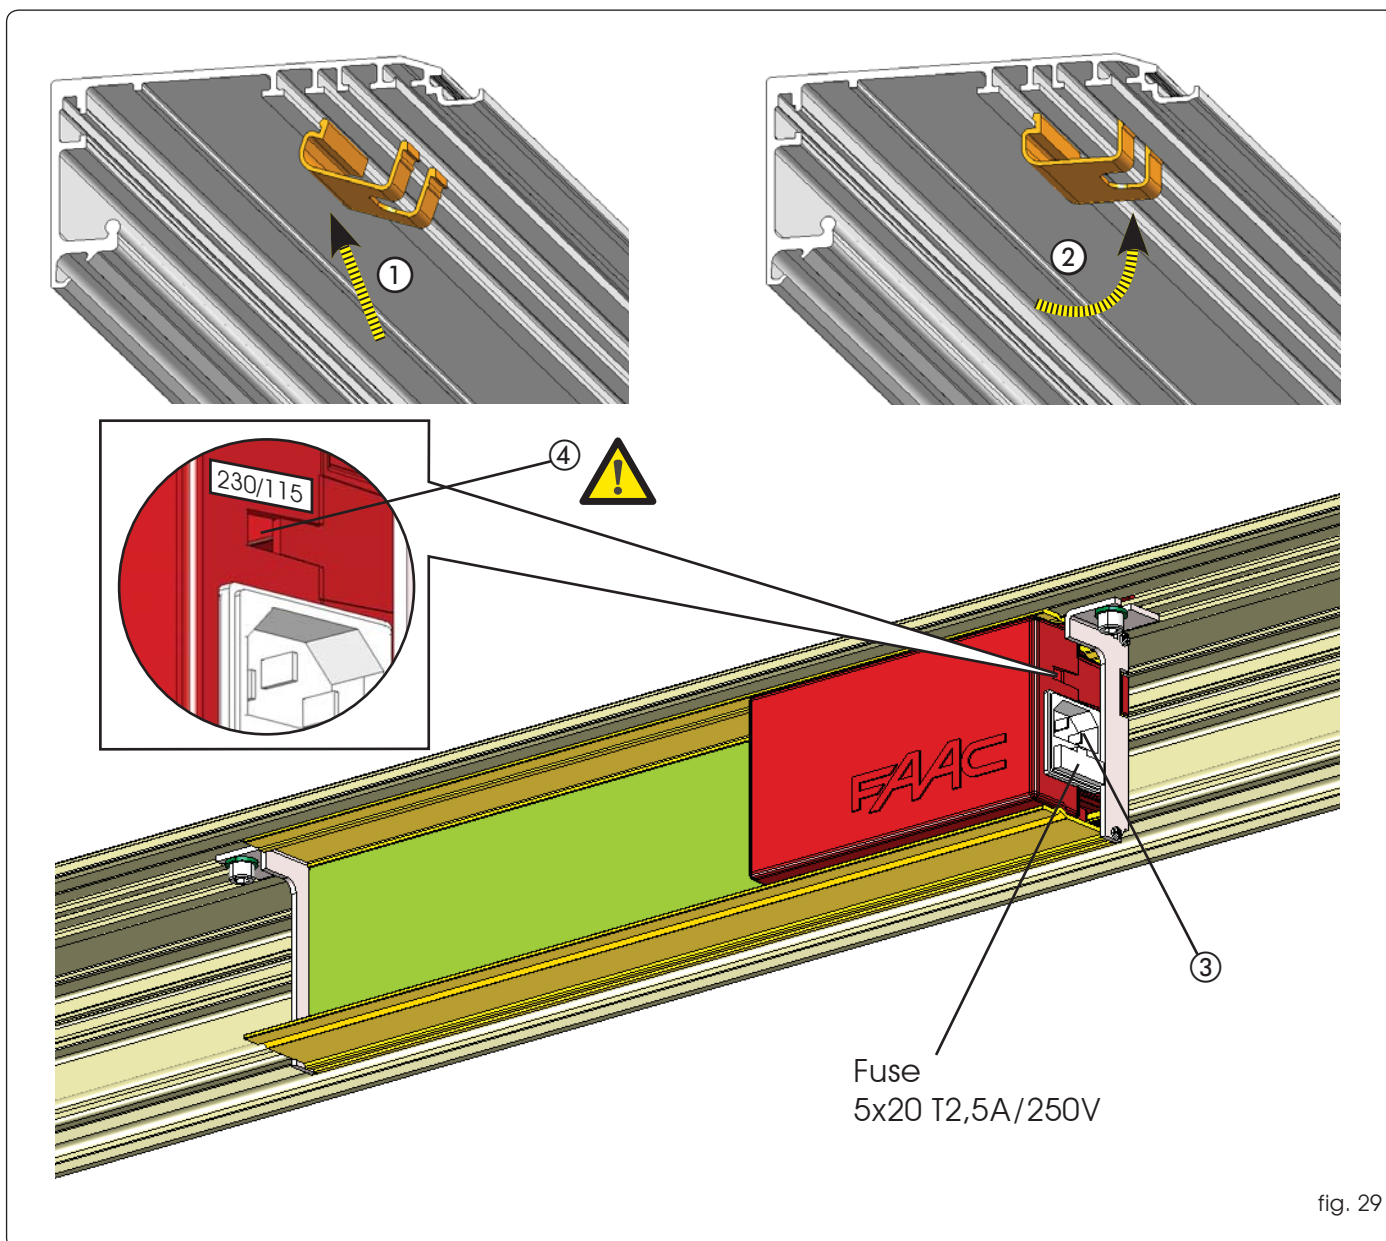

fig. 29
- Use the raceways - suitably positioned (Fig. 29 ref.① and ②) - to route the cables inside the support profile, thus preventing them from coming into contact with moving parts.
- Connect the 115V/230V~ power plug in the specific connector of the power supply unit (Fig. 29 ref. ③).
⚠ Check if the switch in fig. 29 ref.④ is correctly positioned (230V~/115V~).